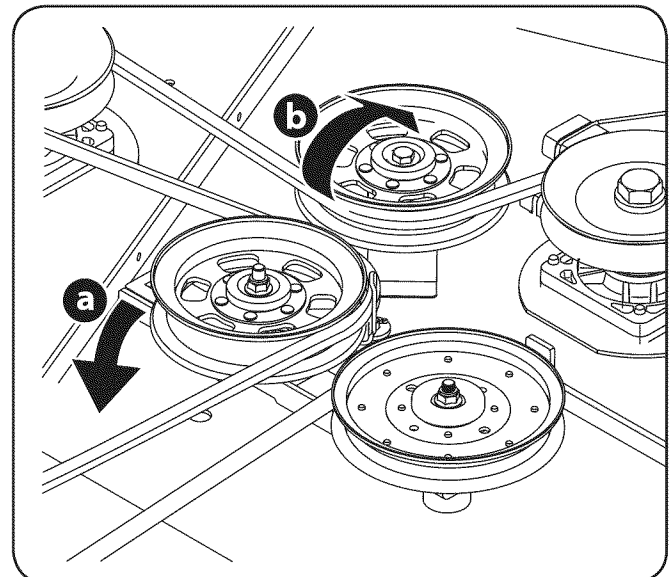

Figure 25
- b. Working from the middle of the tractor, pivot the idler bracket and movable idler pulley rearward away from the backside of the 'V' belt (a) just far enough to lift the belt up and over the idler pulley (b). See Figure 25.